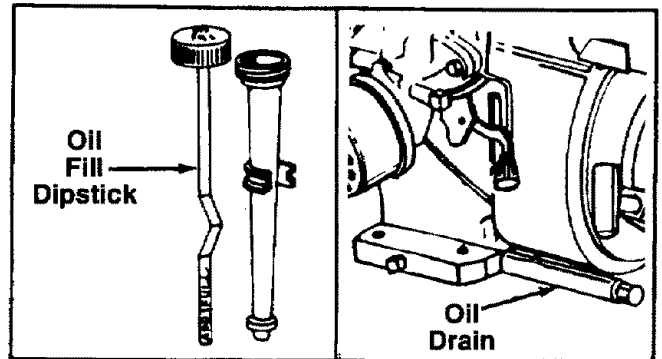

FIGURE 10.
- Fill engine with oil as follows. Remove oil fill dipstick. See figure 10. With chipper-shredder level, use a funnel to fill engine with oil to FULL mark on dipstick. Capacity is approximately 1-1/4 pints. Be careful not to overfill. Tilt chipper-shredder toward the left (from behind the hopper), then re-level. Check oil level. Refill to FULL mark on dipstick if necessary. Replace dipstick and tighten.
Your four-cycle engine will normally consume some oil—therefore, check engine oil level regularly approximately every five hours of operation and before each usage. Stop engine and wait several minutes before checking oil level. With engine level, the oil must be to FULL mark on dipstick (refer to figure 10). Change engine oil after the first five hours of operation, and every twenty-five hours thereafter.
- a. Remove oil drain cap. Refer to figure 10. Catch oil in a suitable container.